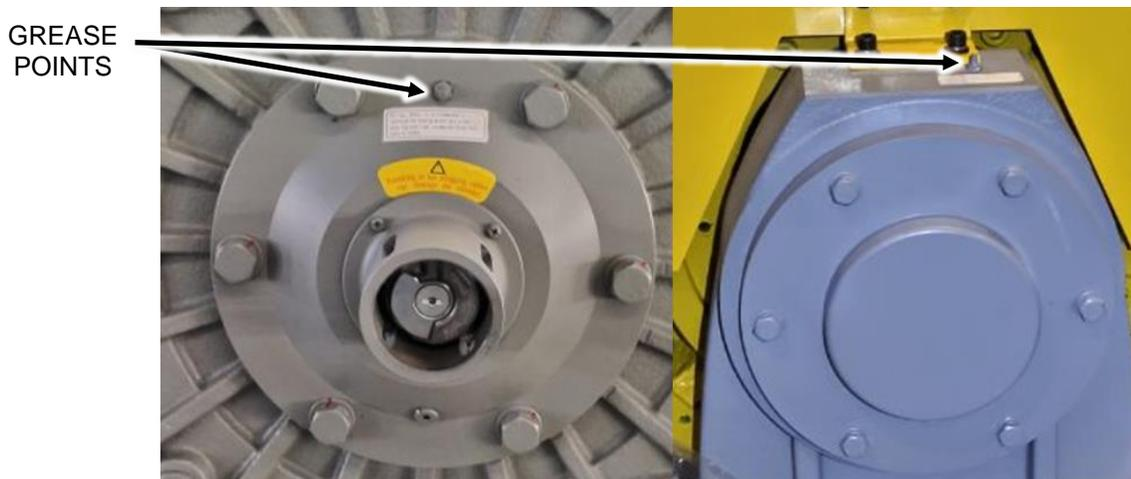

Figure 16
2. The grease point is opposite the relief plug. Figure 16.